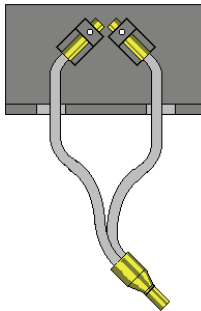

Figure 83 Inserting the fibre end
15. Loosen the grub screw in the right fibre holder and insert the free fibre end, as shown in Figure 83.